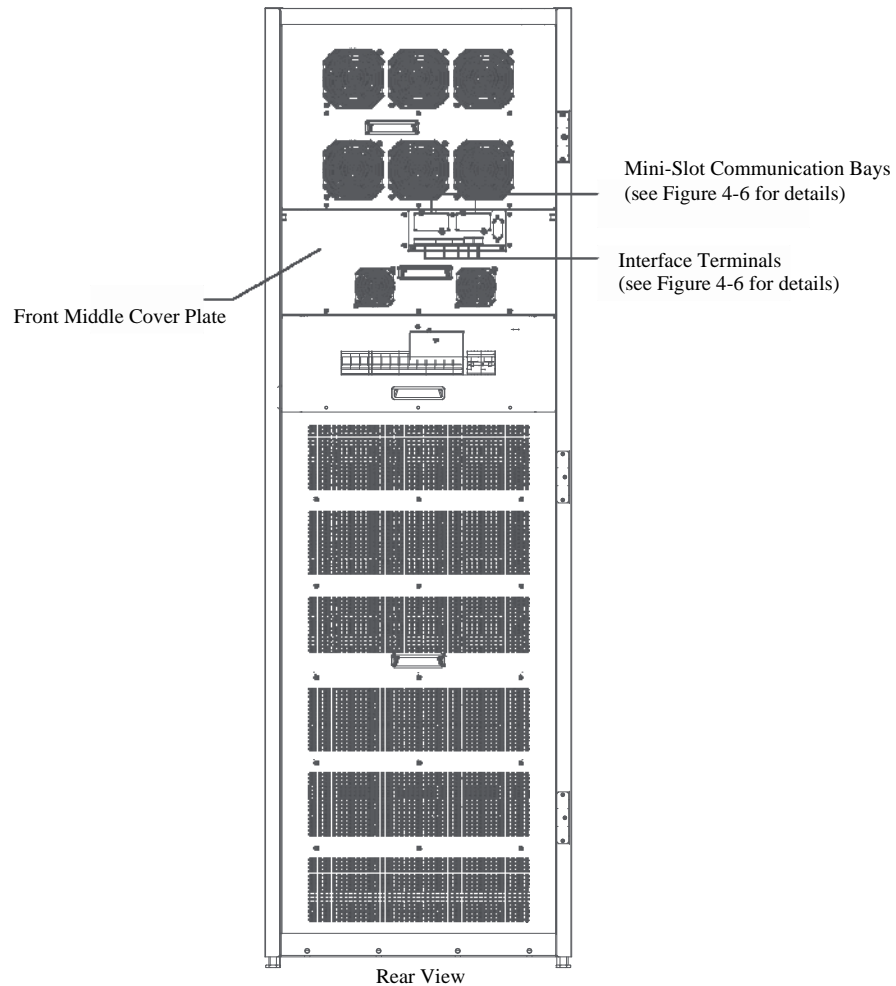
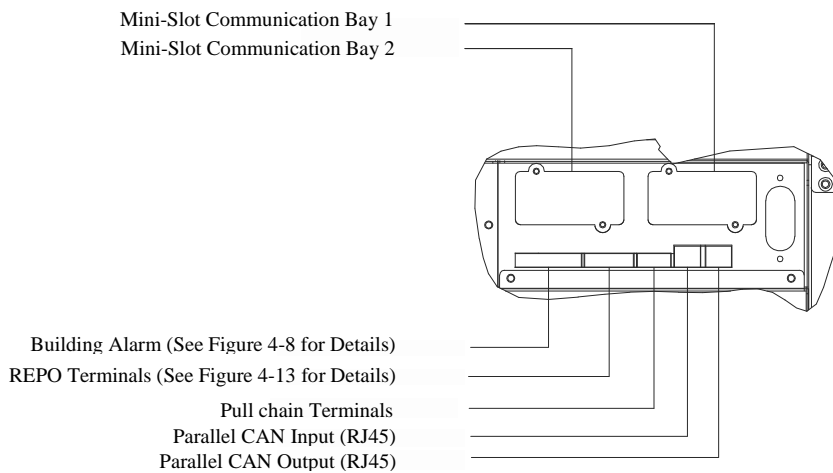
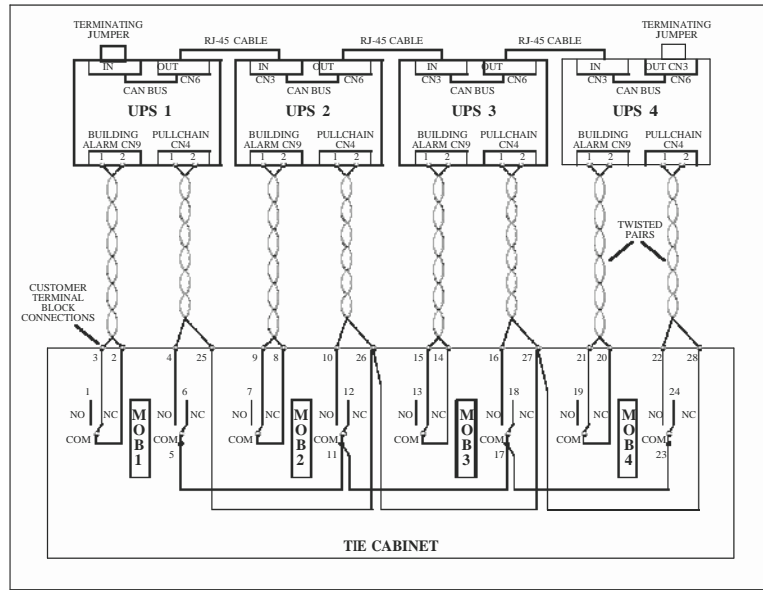

Figure 4-6. Interface Terminal Locations
Figure 4-7. Interface Terminal Detail (Terminal Cover Removed)
Figure 4-11. Parallel UPS Control Wiring
2. To locate the appropriate terminals and review the wiring and termination requirements, see paragraph 3.2.3, Table 4-1, Figure 4-5 and Figure 4-6
4. Connect the building alarm interface wiring as shown in Table 4-1 and Figure 4-7.
5. Route and install RJ-45 Controller Area Network (CAN) cables between the UPS cabinets. See Figure 4-6 and Figure 4-10 for wiring information.
6. Route and install pull chain wiring (17-20AWG Twisted Wires) between the UPS cabinets and cabinet MOBs. See Figure 4-6 and Figure 4-10 for wiring information.
2. Route and install the LAN and other cables to the appropriate Mini-Slot cards. See Figure 4-6 and Figure 4-7 for Mini-Slot communication bay locations.
3. To locate the appropriate terminals and review the wiring and termination requirements, see paragraph 3.2.3, Table 4-3, Figure 4-5, Figure 4-6 and Figure 4-11.